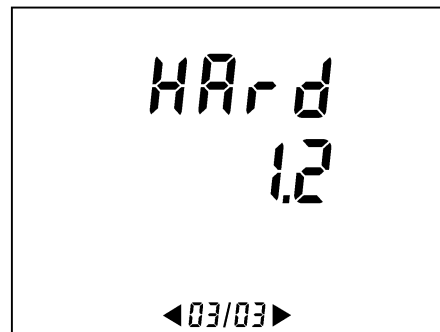

Figure 67: Material version number (page 3/3)
- The appliance hardware version (*Hard* = *Hardware version*) (Figure 67).